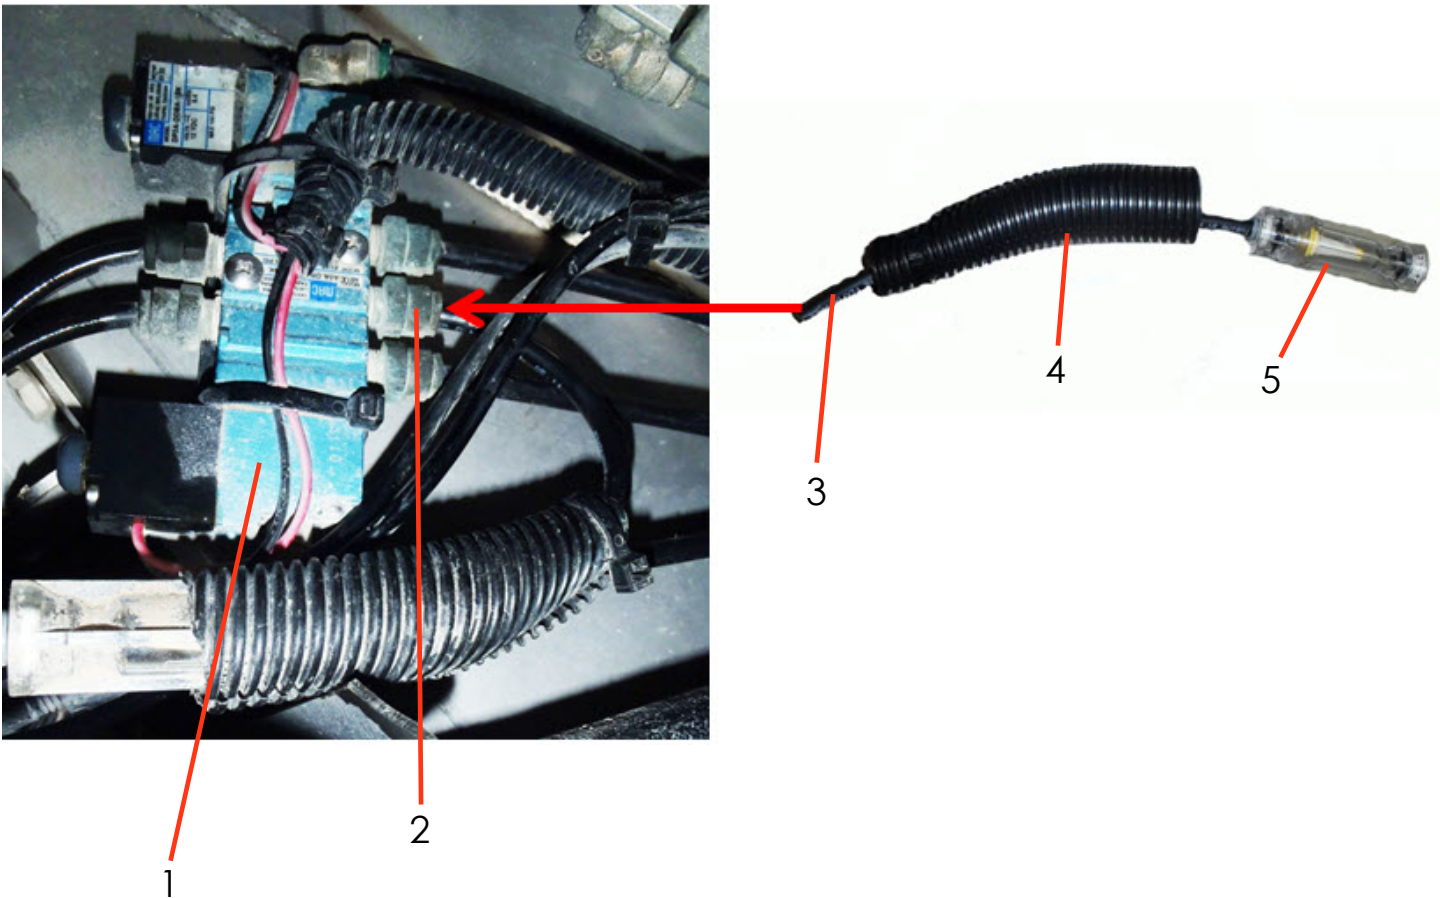

Figure 19
19. Figure 19 - Install new inline air filter (5) with corrugated tube (4) into inlet fitting (2) on control valve assembly (1). Push firmly to seat tube (3) into fitting.